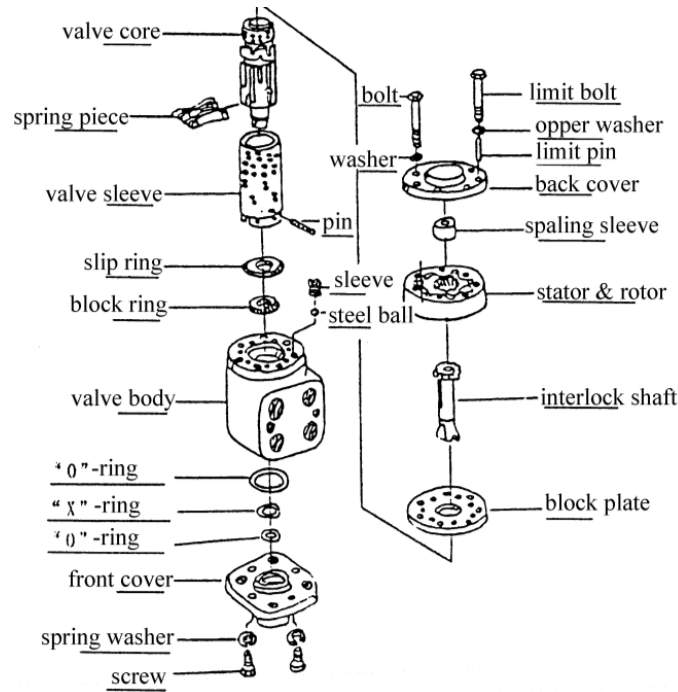

Fig5.4 Structure of steering unit
In order to keep the steering system in good working condition and avoid accidents, it is necessary to check the steering system regularly. The structure of steering unit is referred to Fig5.4.
(5) Measure the pressure with pressure meter (15-20MPa), cutoff valve and soft tube in Fig. 5.4.